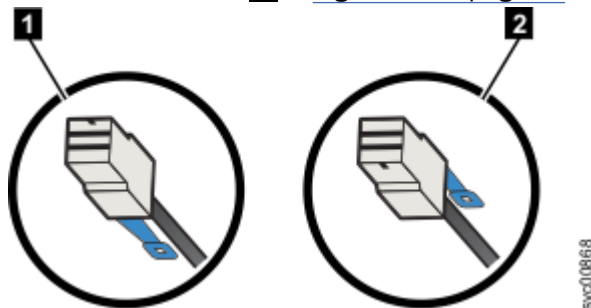

Figure 59. SAS cable connector orientation
When you insert SAS cables, make sure the connector (Figure 59 on page 96) is oriented correctly.
- For FlashSystem control enclosure node canisters and 2U expansion enclosures, the blue pull tab must be below the cable (**1** in Figure 59 on page 96).
- For 5U expansion enclosure canisters, the blue pull tab must be above the connector (**2** in Figure 59 on page 96).